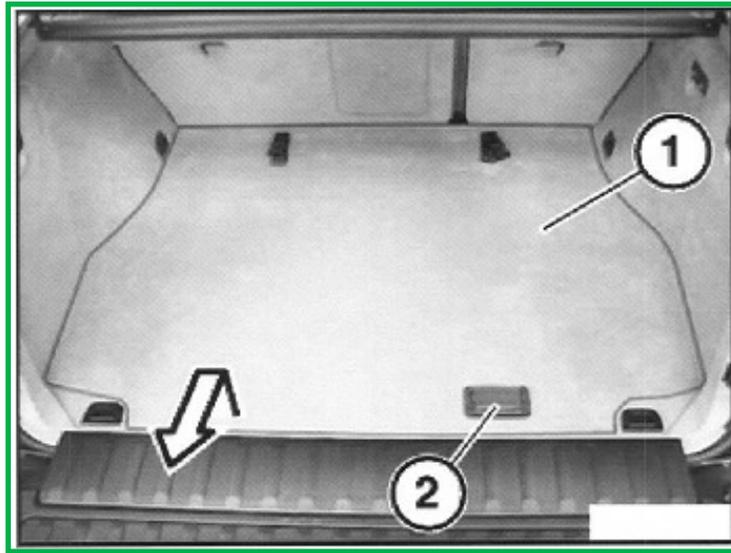

FIGURE 1
1. Open the trunk lid, unlock the luggage compartment floor trim panel (1) at handle (2), and remove. (Figure 1)